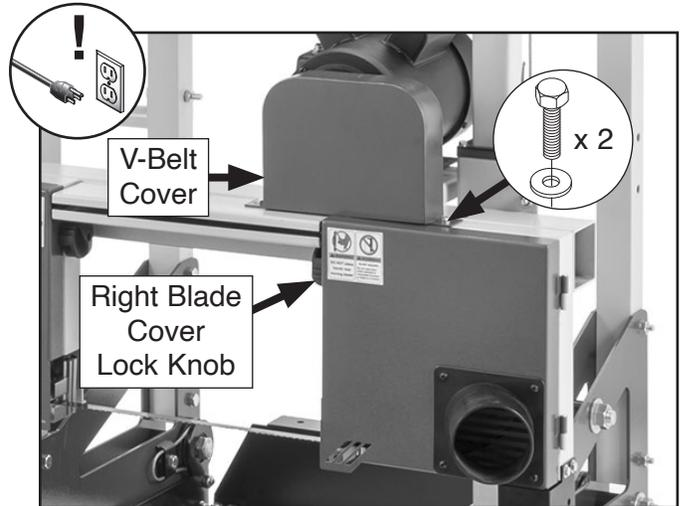

Figure 100. Location of right blade cover lock knob, V-belt cover, and fasteners.
2. Remove (2) hex bolts and flat washers shown in **Figure 100** to remove V-belt cover.
3. Turn right blade cover lock knob clockwise to open right blade cover (see **Figure 100**).